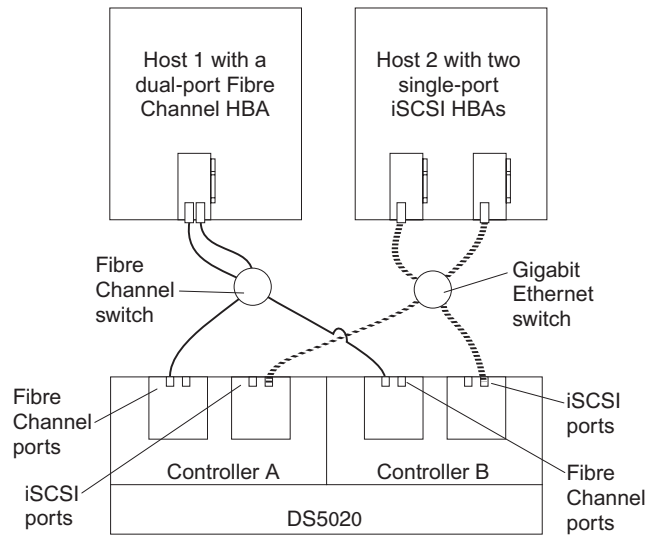

Figure 63. Example of iSCSI and Fibre Channel hosts, multiple-port configuration
- iSCSI and Fibre Channel hosts, multiple-port configuration, as shown in Figure 63 on page 92
Figure 63 shows iSCSI and Fibre Channel hosts in a multiple-port configuration.